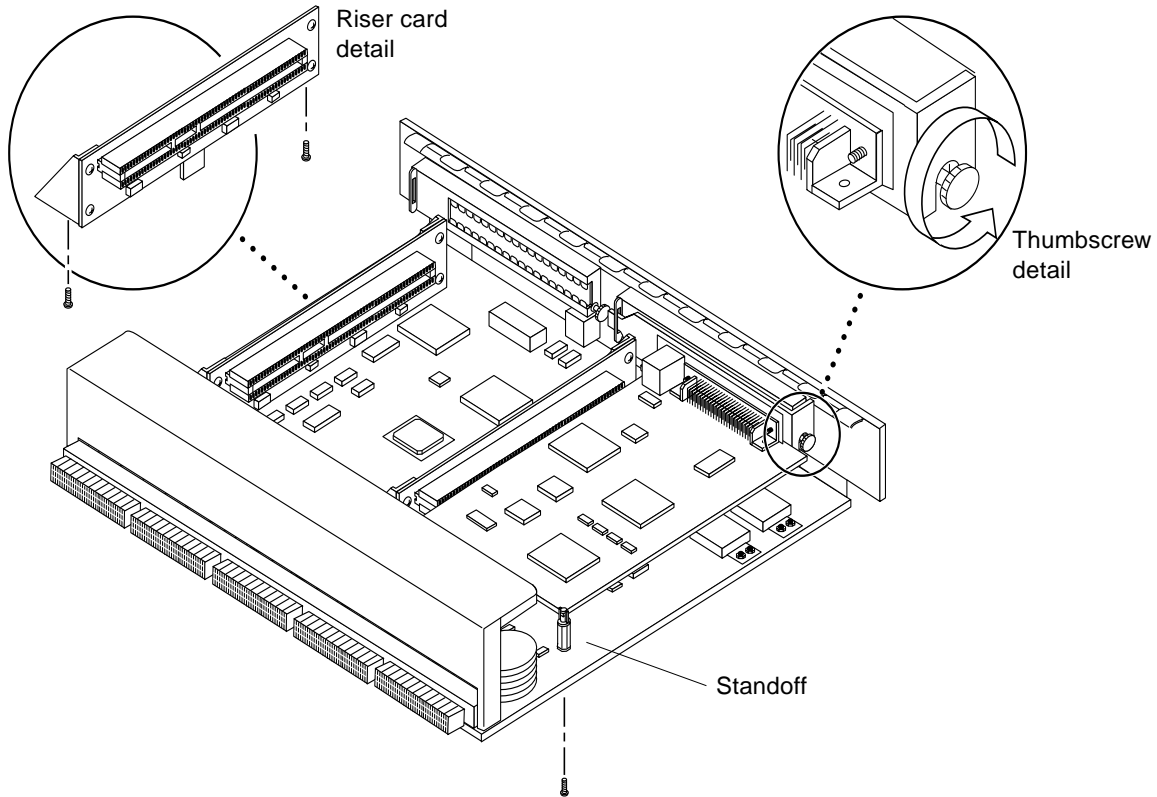

FIGURE 4-26 PCI and Riser Card Removal
2. On the noncomponent side of the I/O+ board, loosen the locking standoff for the corresponding PCI card that is to be removed (FIGURE 4-26).
3. Loosen and then remove the thumbscrew on the component side of the I/O+ board next to the external PCI card connector (FIGURE 4-26).
3. Remove two screws securing the existing riser card to the PCI+ I/O board (FIGURE 4-26 on page 4-30) and remove the riser card.